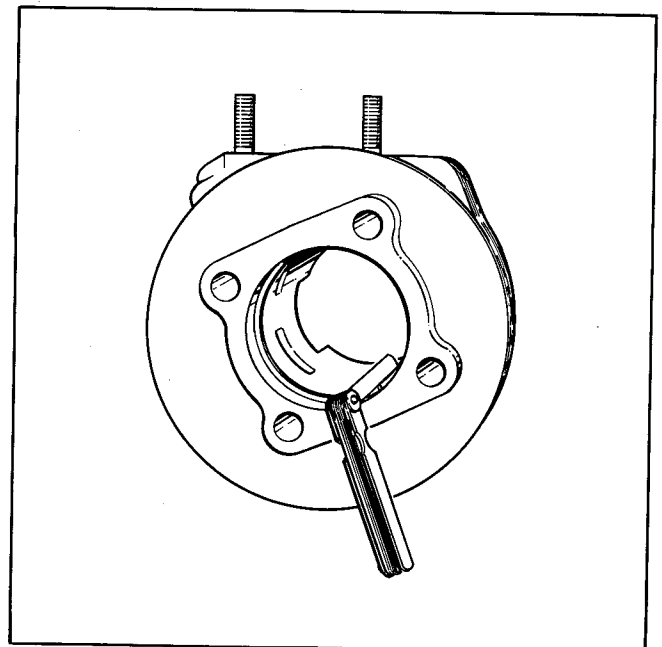

Figure 7-12 - Ring End Gap
- b. See Figure 7-12. Check the ring gap clearances as shown. Place a ring in the cylinder, 1/2 in. from the top. Ring gap should be .007-.023 in. If ring gap is less, ring ends could butt against each other when the ring expands. This will cause the rings to break, damaging the cylinder and piston. Ring gaps may be increased by carefully filing excess material from ring ends.